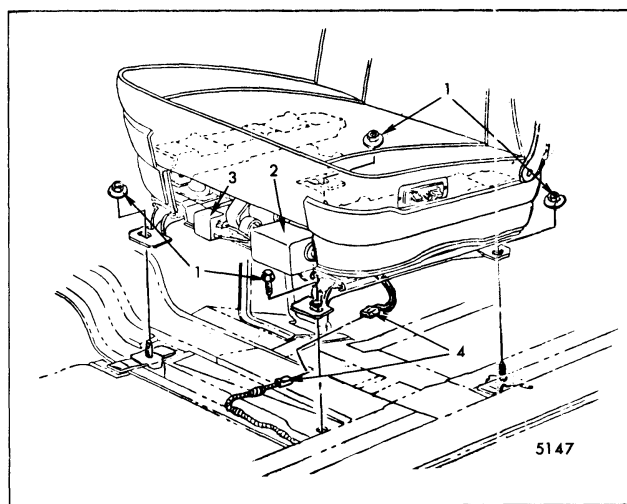

Fig. 9-15-Front Seat - Six-Way Power Operated Bucket Seat (Drivers Side Shown - Passenger Side Typical)
10. Fig. 9-15-Power Six-Way Bucket Seat